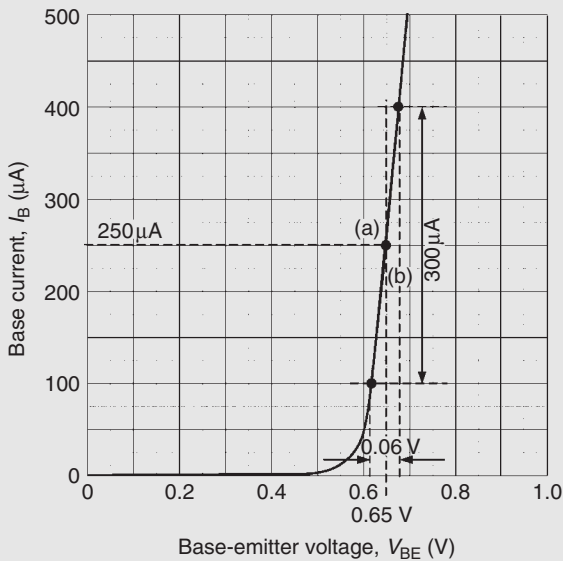

Figure 12.13
**Problem 3.** Figure 12.13 shows the input characteristic for an n-p-n silicon transistor. When the base-emitter voltage is 0.65 V, determine (a) the value of base current, (b) the static value of input resistance, and (c) the dynamic value of input resistance.
(a) From Fig. 12.13, when  $V_{BE} = 0.65$  V, **base current,  $I_B = 250 \mu\text{A}$**  (shown as (a) on the graph)
(c) From Fig. 12.13,  $V_{BE}$  changes by 0.06 V when  $I_B$  changes by  $300 \mu\text{A}$  (as shown by (b) on the graph). Hence,